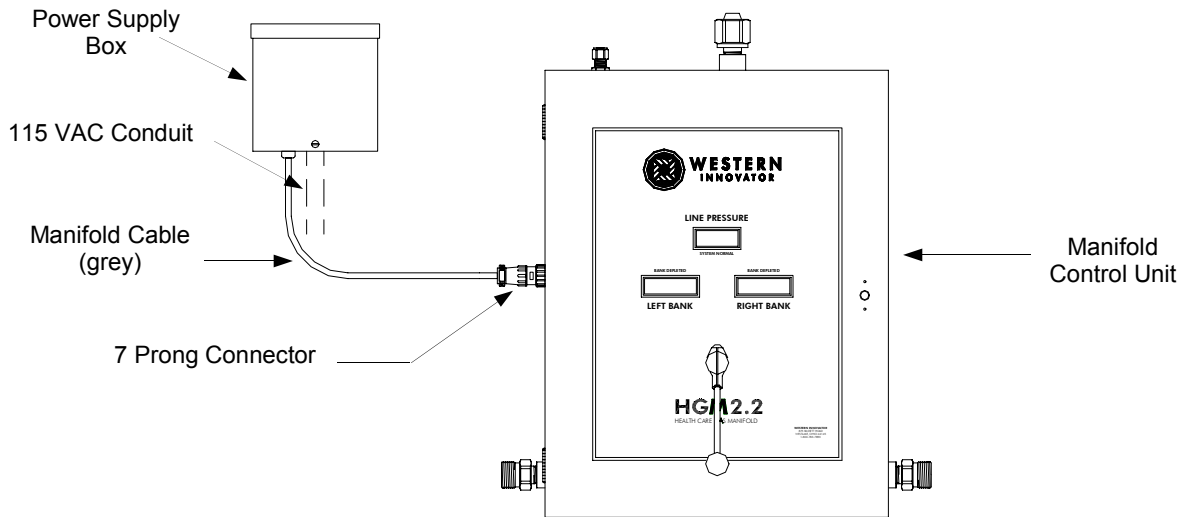

Figure 8
1. A 24 VAC power supply transformer is furnished with the manifold control unit. Mount the box onto the wall, to the left of the manifold, with the top edge approximately aligned with top of the control unit. The attached control cable terminates in a 7 prong plug matching a receptacle on the left side of the control unit, (Figure 8).